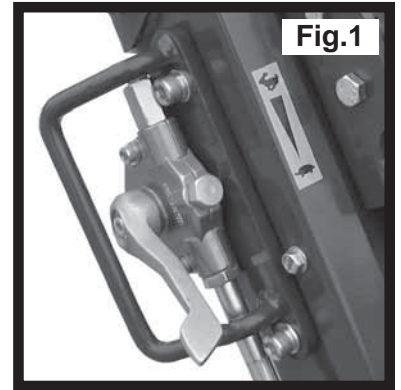
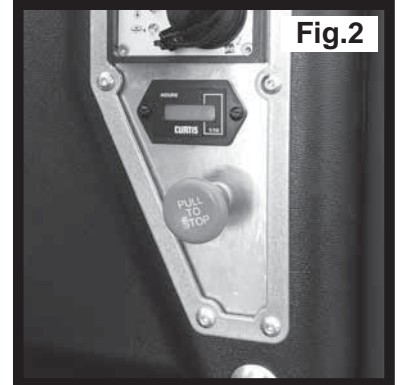

Fig.1
Fig.2
1. To stop the engine, set the throttle control to idle (See Fig. 1), then press and hold the red stop button for 5 seconds until the engine stops (See Fig. 2).
1. To stop the engine, set the throttle control to idle (See Fig. 1), then pull red stop handle until the engine stops (See Fig. 2).